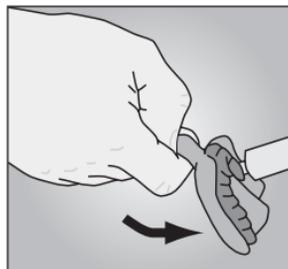

fig. 3
4. Fill the tray with the desired amount of material by holding the tray in a tilted position and gently pressing against the dynamic mixer. Keep the tip immersed in the material to avoid air bubbles (fig. 3).